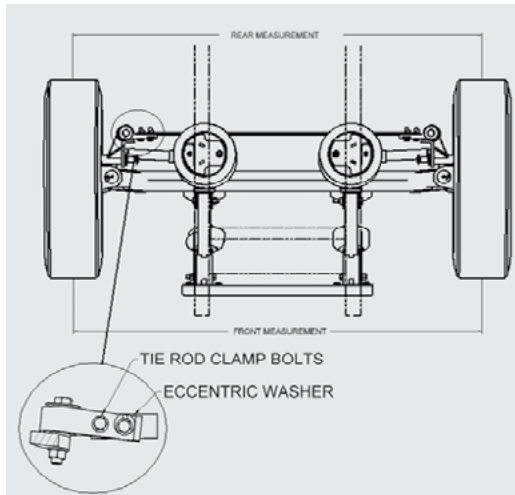

Figure 12. Determining TOE
Toe is the relationship of the distance between the front of the tires and the distance between the rear of the tires on the same self-steer axle measured at spindle height. When the front distance is less than the rear distance, the wheels are in a "toe-in" condition. (See Figure 12)
- a. Compliant Tie Rod: Loosen the tie rod clamp bolts. Rotate eccentric washer to a toe setting of  $\frac{1}{16}$ " to  $\frac{1}{8}$ " toe-in. Rotate CW to increase toe and CCW to Decrease. (See Figure 12)